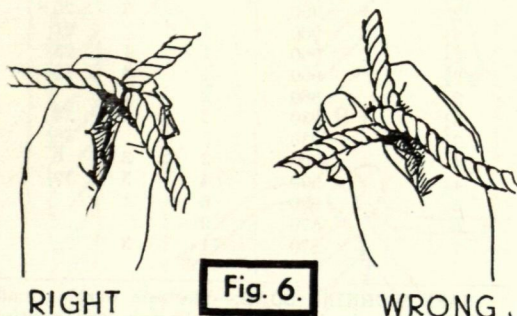

Fig. 6.
2. Place the two ends together so that the strands from one rope alternate with those of the rope to be joined to it. Strands should not cross over the centre of the rope. (See Fig. 6.)